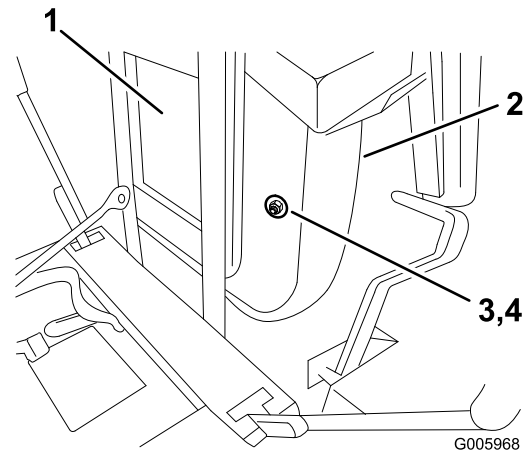

Figure 5
1. Tip the seat forward and remove the two bolts and washers holding the seat cushion to the seat pan (Figure 5). Retain the seat cushion fasteners for later use.